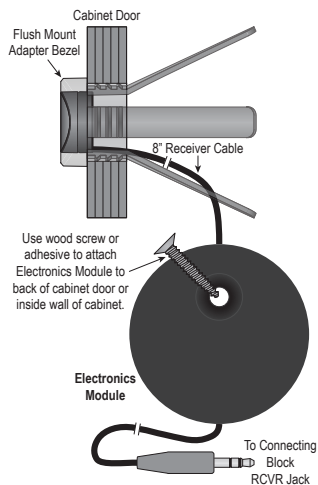

Figure 13 - Flush Mount Adapter - Secure Electronics Module
5. **NOTE: It is recommended that the Electronics Module be mounted to an inside wall of the cabinet. If attached with adhesive, there is some possibility that if mounted to the door, in time, the module could come loose from the action of the door opening and closing and ultimately fall off, potentially damaging the IR Receiver the Electronics Module or both.** Using an appropriate length wood screw (not included) attach the Electronics Module to an inside wall of the cabinet. Use a screw that will secure the module but will not penetrate the outside wall of the cabinet. Do not overtighten the screw to avoid damaging the Electronics Module case. **Figure 13** OR... Use one of the included adhesive strips to attach the Electronics Module to the inside of the cabinet.